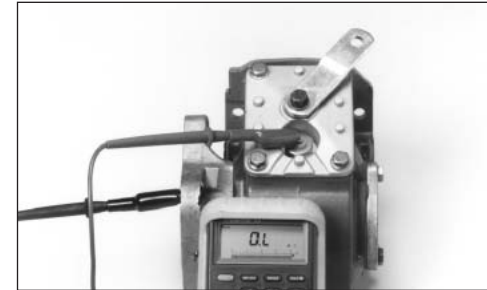

Fig. 13
2. With the other probe, make contact with the shifter cover or housing (Fig. 13).